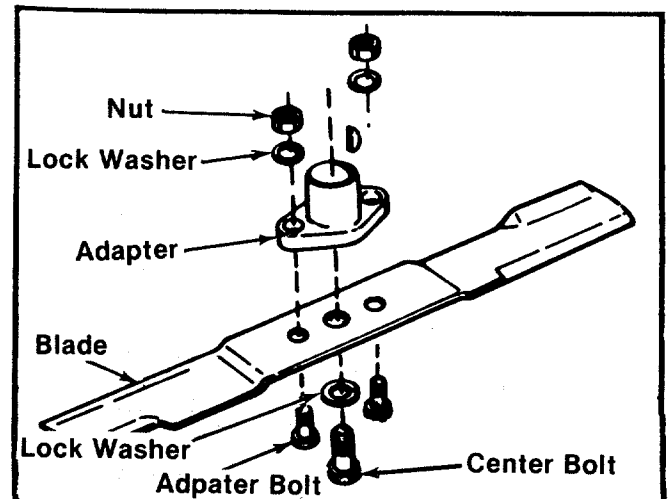

FIGURE 37. BLADE REMOVAL
**Removing and Sharpening Blades.** Remove the center bolt and lock washer. See figure 37. Pull the blade and blade adapter from the blade spindle.